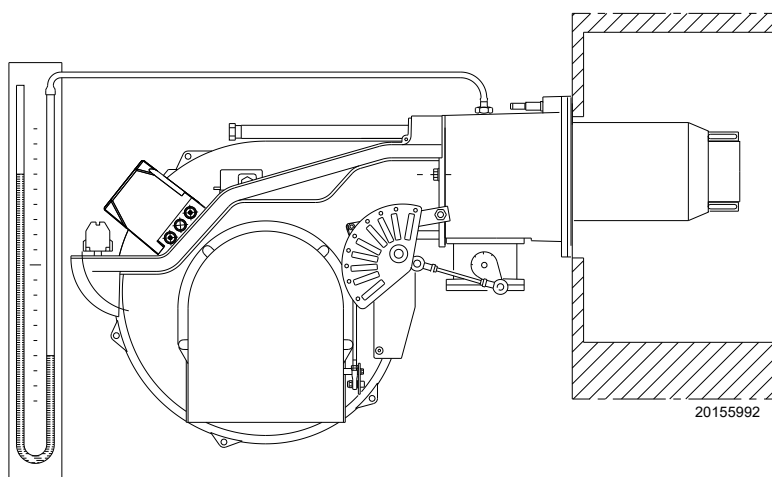

Fig. 29
- Bleed the air from the piping of the gas train, connecting a plastic tube to the pressure test point 1)(Fig. 29) of the minimum gas pressure switch.
- Fit a U-type pressure gauge (Fig. 29) to the gas pressure test point on the pipe coupling.
The arrival of gas to the sleeve is indicated by the U-type pressure gauge (Fig. 29 on page 29).